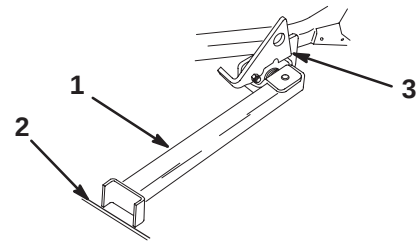

Figure 25
4. Set foot of stand on the ground and rest latch on pivot tab (Fig. 25).
- Note:** For best results, place foot of stand into seams in sidewalks or into turf (Fig. 25).
6. Drive onto stand. Stop when latch drops over tab into locked position (Fig. 25). Once onto stand, engage parking brake. Shut off engine.